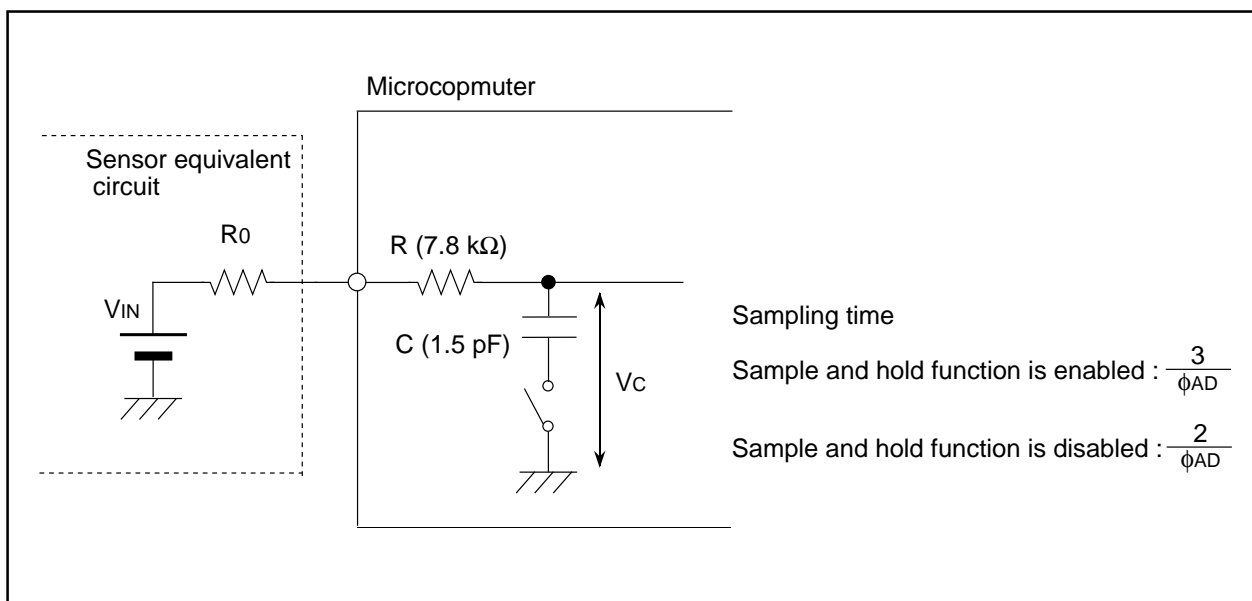

Figure 17.8 Analog Input Pin and External Sensor Equivalent Circuit
For perfect A/D converter performance, complete internal capacitor (C) charging, shown in Figure 17.8, for the specified period (T) as sampling time. Output Impedance of the sensor equivalent circuit (R₀) is determined by the following equations:
Figure 17.8 shows analog input pin and external sensor equivalent circuit. The impedance (R₀) can be obtained if the voltage between pins (V_C) changes from 0 to V_{IN} - (0.1/1024) V_{IN} in the time (T), when the difference between V_{IN} and V_C becomes 0.1LSB.